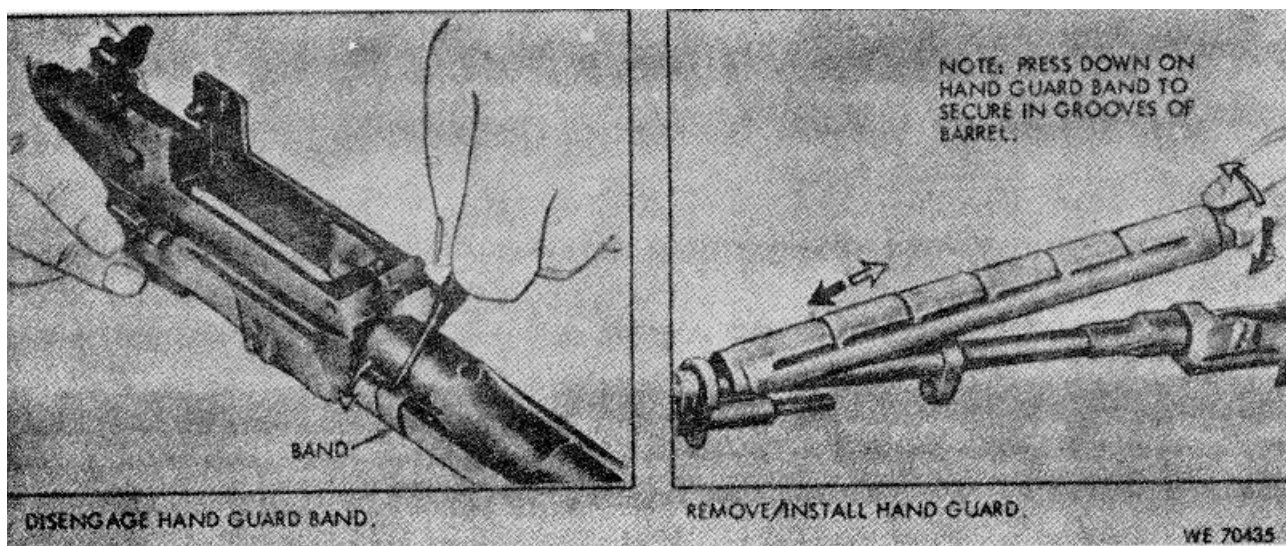

Figure 2-4. Remove/install hand guard.
- a. Removal/Installation. Refer to figure 2-4.